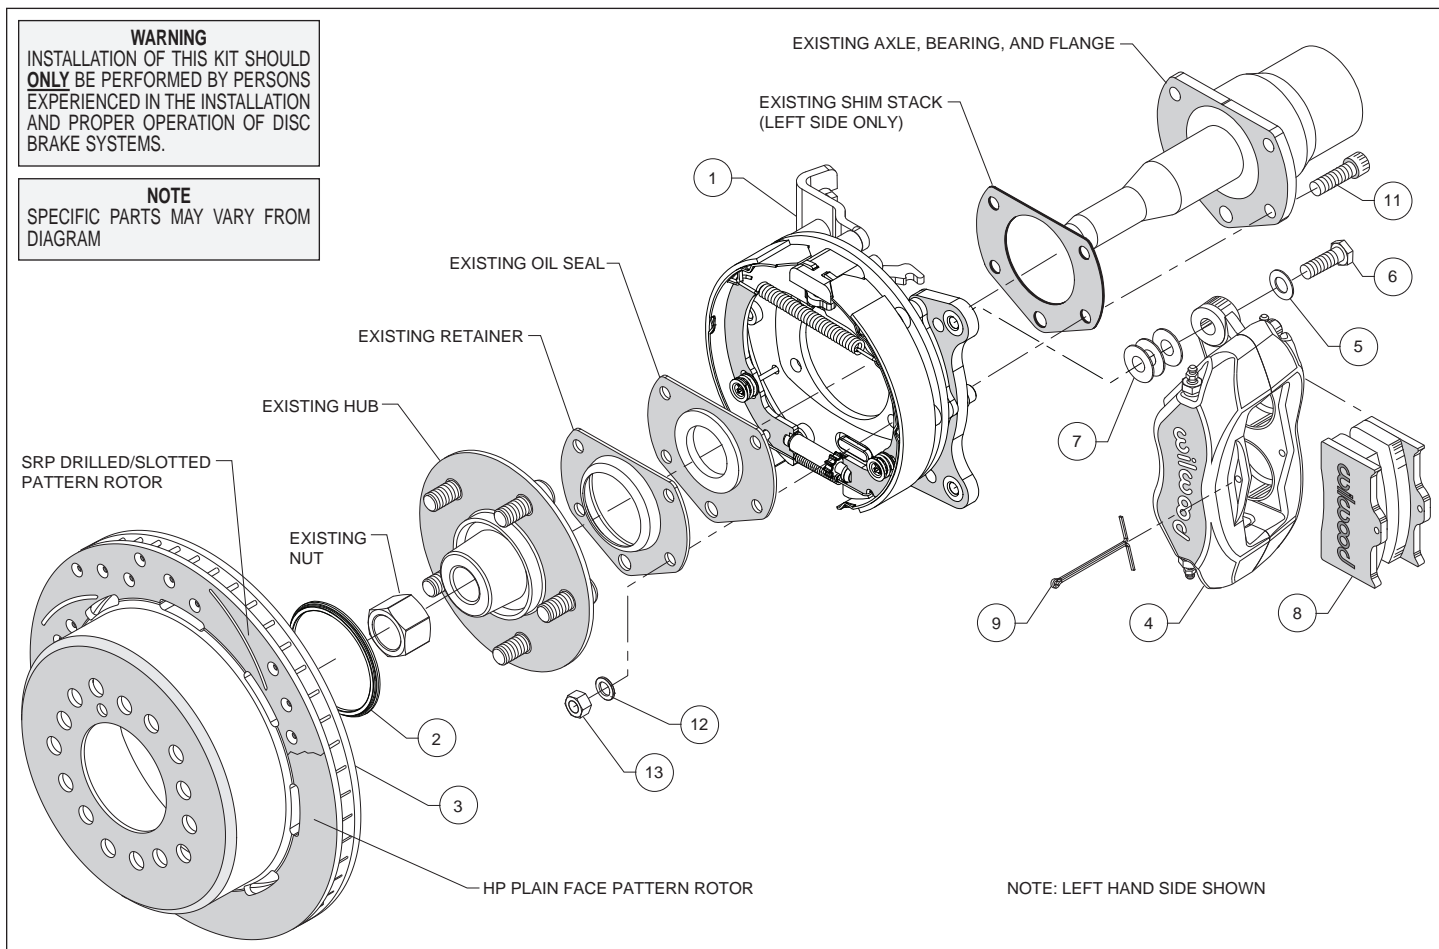
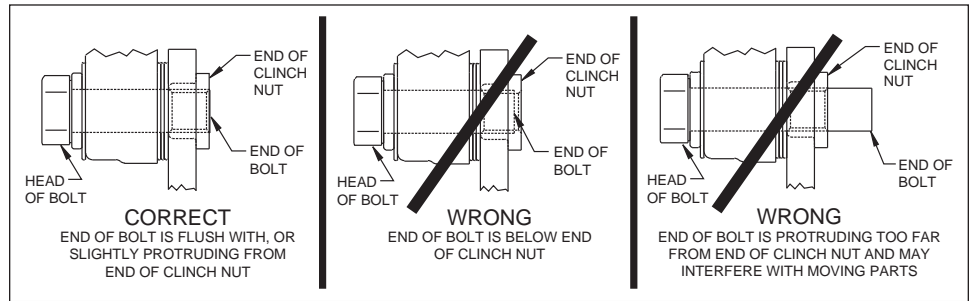

Figure 1. Typical Installation Configuration
Figure 4. Clinch Nut Engagement Diagram
Remove the rear wheels and disassemble the drum brake assembly down to the bare axle. Save the OEM retainer and left side axle flange shim stack. Refer to Figure 1.
**Assembly Instructions** (numbers in parenthesis refer to the parts list, and Figure 1 on the preceding pages): **CAUTION:** All mounting bolts must fully engage clinch nuts. Be sure to check that all bolts are either flush or protruding through flanged side of clinch nut after shimming, Figure 4.
- Orient the bracket assembly (1), as shown in Figure 1, and Photo 2. Install a new OEM seal plate (not included), Photo 3, and OEM retainer, Photo 4. Secure using bolts (11), washers (12), and nuts (13). Apply red *Loctite*® 271 to the bolt threads and torque nuts to 40 ft-lb.
- Slide the rotor registration adapter (2) onto the axle register on the axle flange with the smaller O.D. facing toward the rotor/hat (3), Photo 5. Align the correct hole pattern in the rotor/hat with the stud pattern on the axle flange and slide into place, Figure 1 and Photo 6. **NOTE:** The rotor/hat must fit flush against the axle flange or excessive rotor run out may result. Install three lug nuts (finger tight) to keep the rotor/hat assembly in place while continuing with the installation. **NOTE:** Some OEM and after market axles come with stud sizes larger than 0.50" diameter. Verify stud size and have a qualified machine shop drill the bolt circle of the hat/rotor to the correct stud size, if necessary.
•**NOTE:** Please reference the caution statement at the beginning of the assembly instructions. Mount the caliper (4) onto the caliper mounting bracket (1) using bolts (6) and washers (5), as shown in Figure 1. Initially place three .035" thick shims (7) on each bolt between the caliper and the bracket, Photo 7. Temporarily tighten the mounting bolts and view the rotor (3) through the top opening of the caliper. The rotor should be centered in the caliper, Photo 8. If not, adjust by adding or subtracting shims between the bracket and the caliper. Always use the same amount of shims on each of the two mounting bolts. **NOTE:** The end of each bolt must be flush with or slightly protruding from the head of the clinch nut, as shown in Figure 4. If necessary place spare shims between washer (5) and caliper mounting ear to achieve the proper clinch nut engagement. Once the caliper alignment and clinch nut engagement are correct, remove the bolts one at a time, apply red *Loctite*® 271 to bolt threads, and torque to 40 ft-lb.